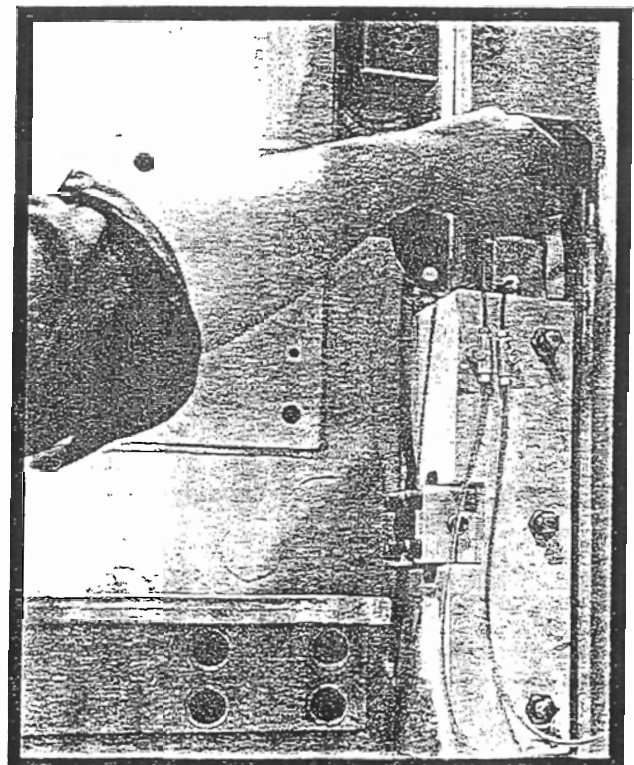

FIGURE 9
1. Loosen the three square head screws on the ram bracket and insert a .002" feeler gauge between lower gib and ram way (Figure 9).